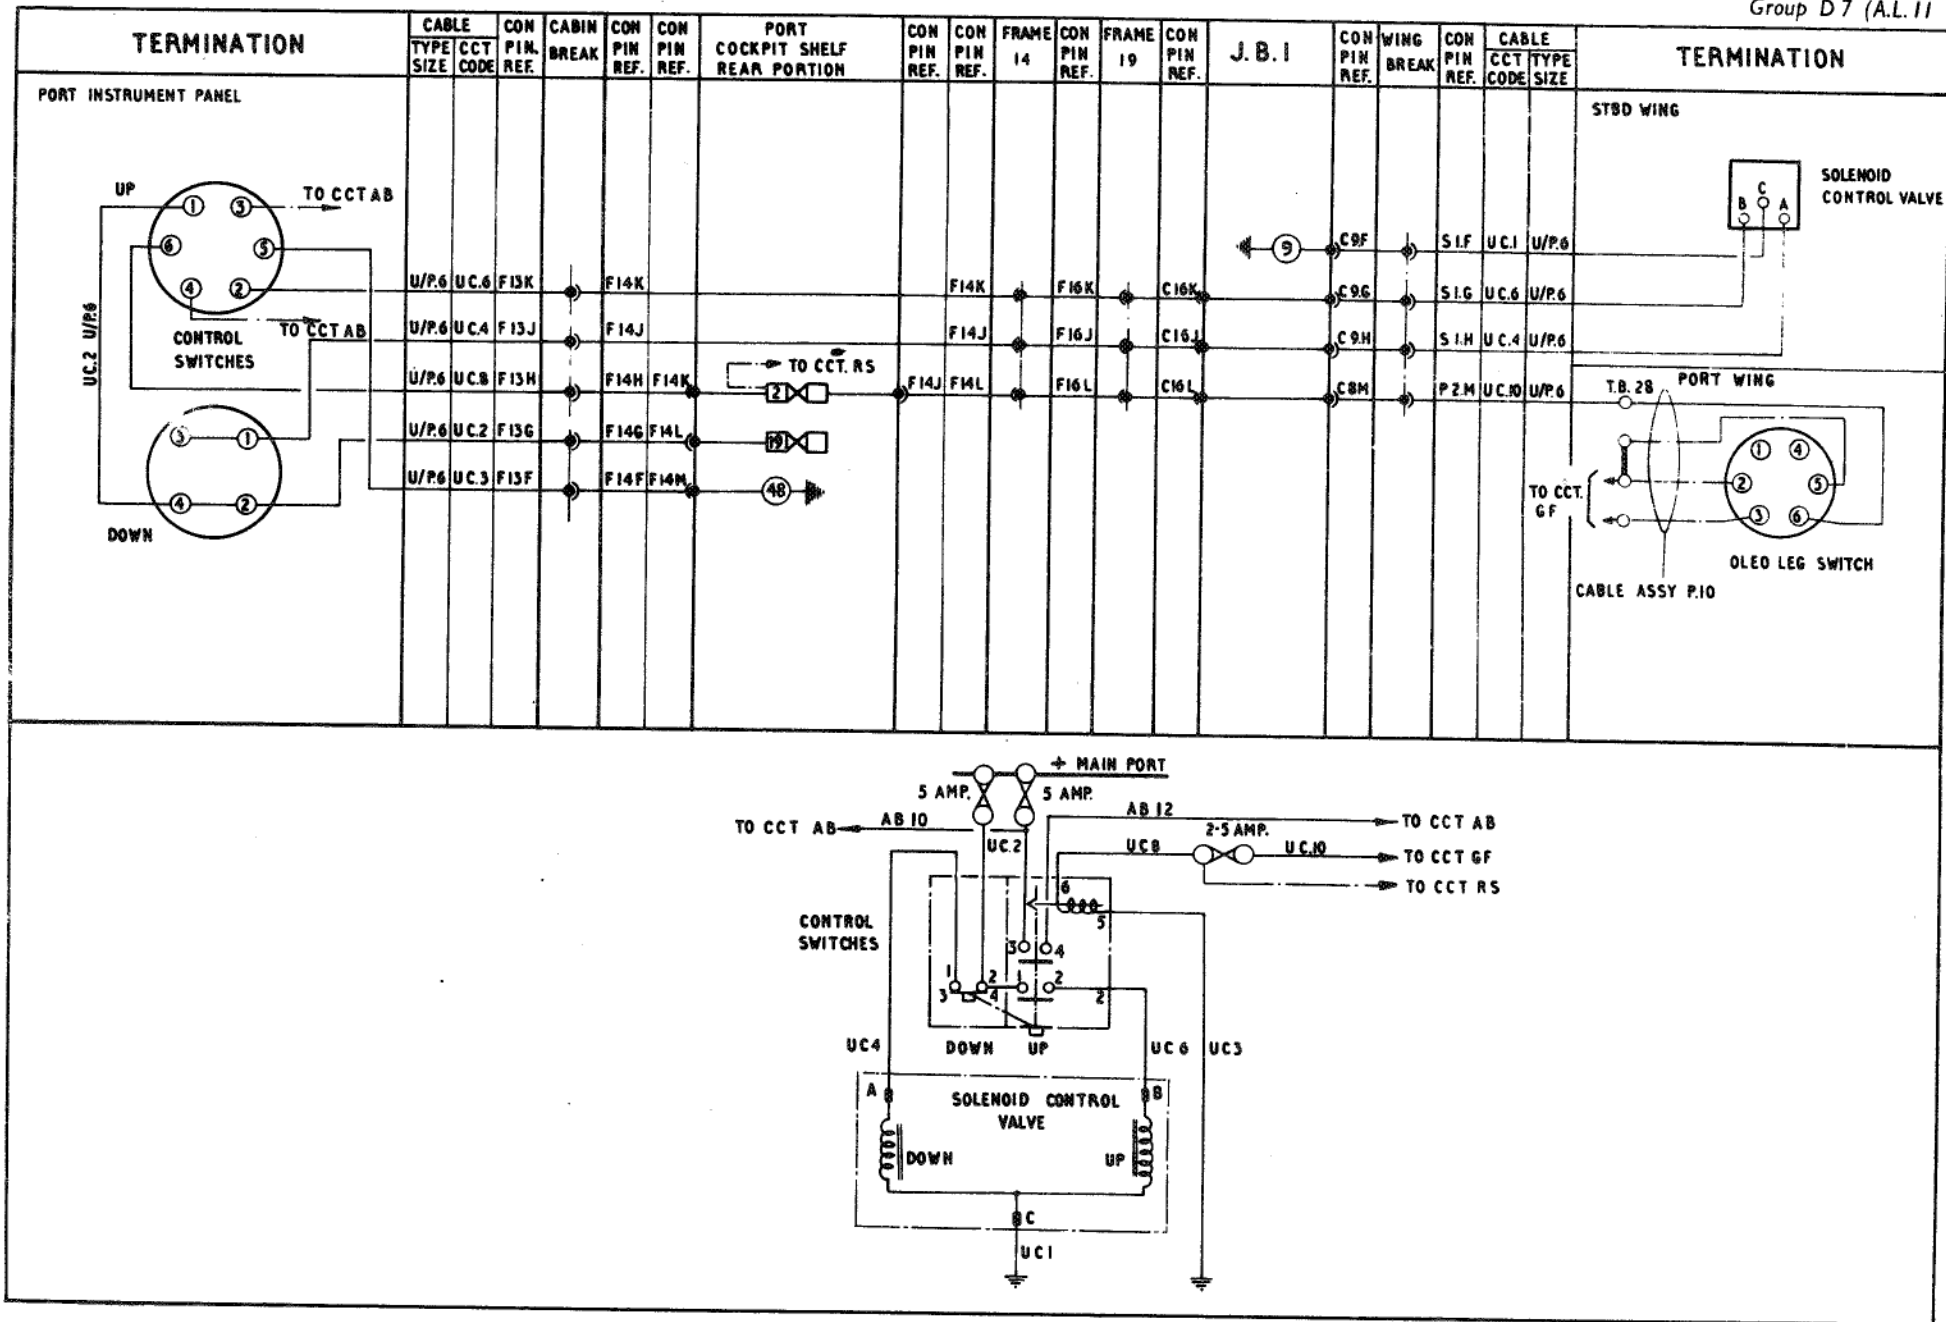

FIG. 1. ALIGHTING GEAR CONTROL
3. The theoretical diagram (fig. 1) of this group is shown with the aircraft at rest on its alighting gear. From the position of the UP and DOWN push-switches of the control switch unit it will be seen that the DOWN switch is made to energize the down solenoid of the electro-hydraulic selector valve, thus maintaining hydraulic pressure in the down side of the hydraulic jacks. Due to the weight of the aircraft on its alighting gear, the compression switch contacts are broken and the solenoid of the UP switch lock is de-energized, thus the lock is engaged, thereby preventing the UP switch from being depressed.